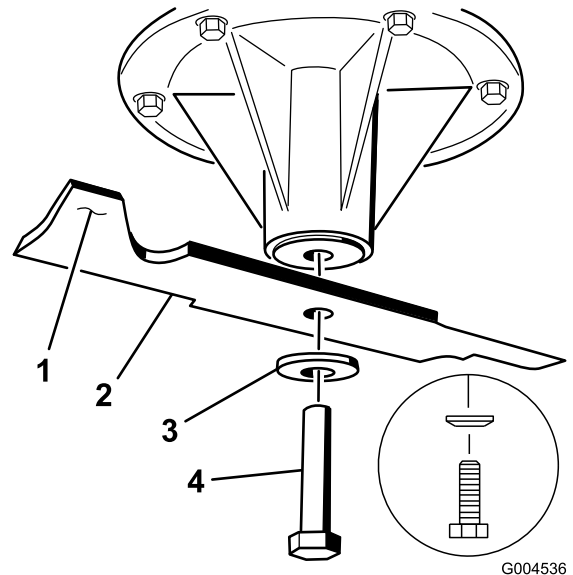

Figure 76
horizontal position, the blade is balanced and can be used. If the blade is not balanced, file some metal off the end of the sail area only (Figure 76). Repeat this procedure until the blade is balanced.
1. Install the blade onto the spindle shaft (Figure 76).
2. Install the spring disk and blade bolt. The spring disk cone must be installed toward the bolt head (Figure 76). Torque the blade bolt to 85-110 ft-lb (115-150 N-m).